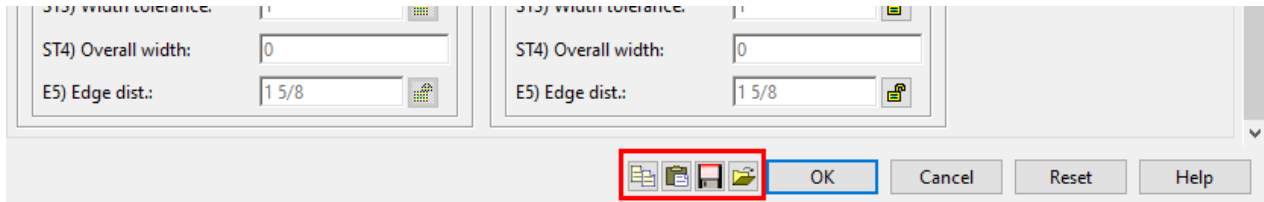

Figure 30. Save or Open Form
2. Select the save button at the bottom of the *DuraFuse Component Dialog*, see Figure 30.